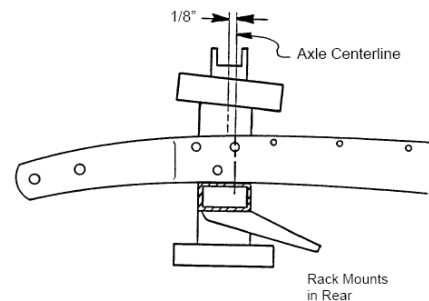

Figure 2- Crossmember Fitment
5. Trial fit the new crossmember onto the rails. It should be located with its centerline 118" forward of the marked axle centerline. See **Figure 2**. The caster setting will bring the spindle pin back in line. The frame is 27-3/8" wide at the axle centerline. During boxing, the rails may have a tendency to bow outward slightly if they were clamped ahead of the axle centerline. Pull the rails in to fit the crossmember up onto the rails. It should be seated flat against the bottom of the frame rails. Clamp in place, double check your measurements, making sure crossmember is squared on the frame, then weld in place. Weld all around, top, sides and bottom. This crossmember keeps the front frame rails from twisting and flexing, so good strong welds are required.